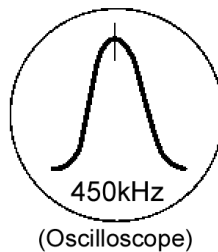

Fig. 6
4. Adjust Z2602 accordingly so that the output frequency is maximized at 450kHz in Fig. 6.